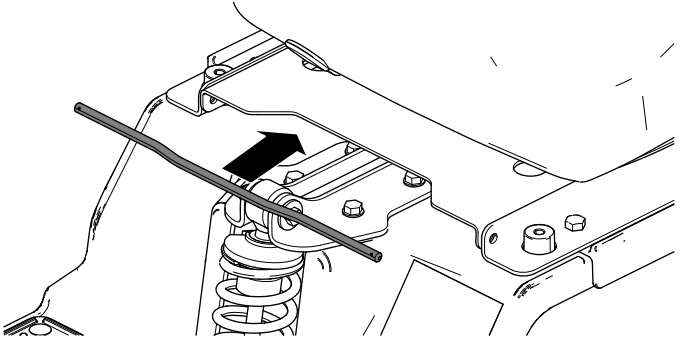

Figure 7
3. Install the seat-pivot rod by inserting the rod from the center and outward through the pivot bracket hole and seat pan hole (Figure 7).